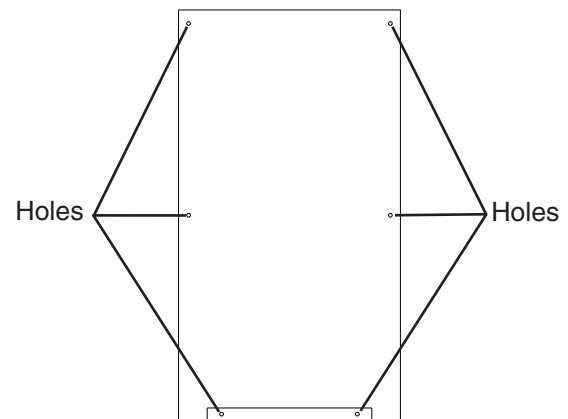

Fig. 2
- 2) Drill six 1/4" diameter (hardwood may require slightly larger diameter) holes 3/8" (10 mm) deep in the locations designated. See "(A) Threaded Inserts" and "(B) Threaded Inserts" in the specification diagram and Fig. 2.